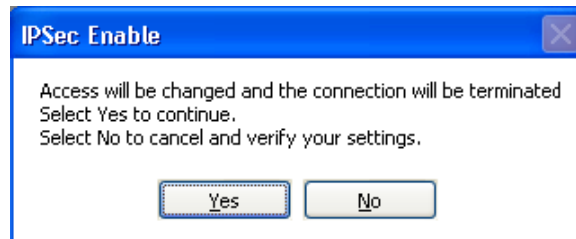

Figure 3-17 IPsec Enable Confirmation Screen
2. To enable IPsec from IPScom, from the **Communication/Setup/Communication Security/IPSEC Configuration** dropdown menu, select **Enable**. IPScom will display the "IPSec Enable" confirmation screen (Figure 3-17).